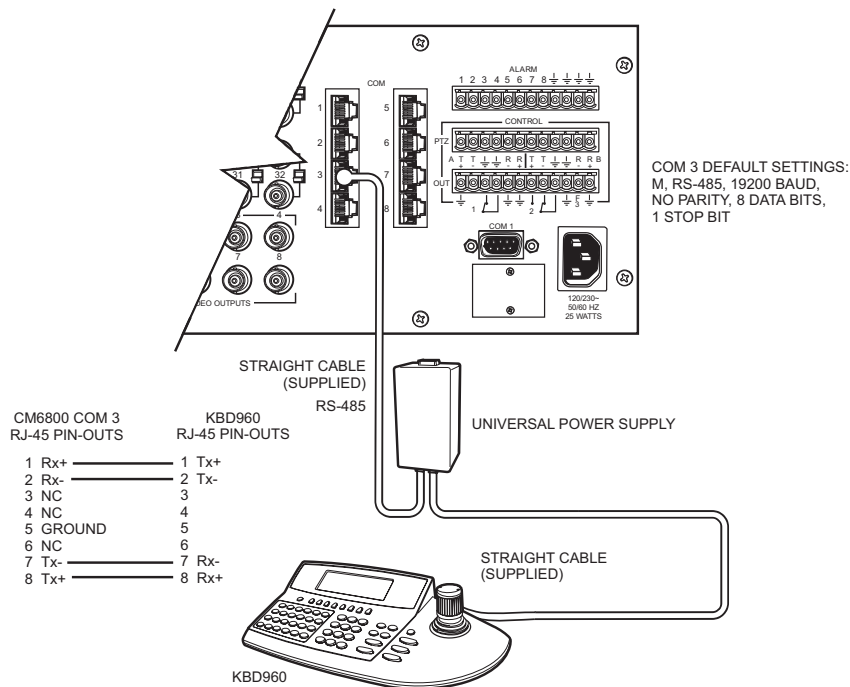

Figure 2. Connecting to the CM6800
2. Connect the RJ-45 straight cable from COM 1 of the keyboard to the power supply. See Figure 2.